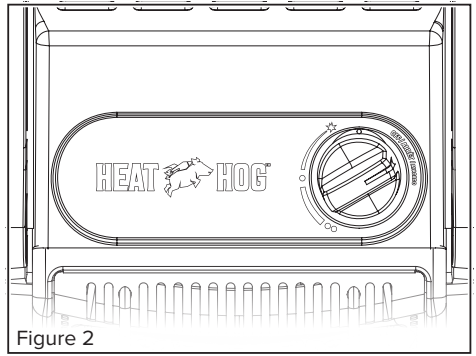

Figure 2
- Before attaching propane make sure Control Knob on heater is in "OFF" position; see Figure 2.
- For **HH-09SNL-A** turn Control Knob counterclockwise to “PILOT” position and depress knob to light; see Figure 2.
- After pilot lights, continue to hold Control Knob down for 30–60 seconds until heating plaques are lit and thermocouple is hot. Release knob. Knob should return to fully extended position; see Figure 2.
- After pilot lights, hold Control Knob down for 30–60 seconds until heating plaques are lit and thermocouple is hot. Release knob. Knob should return to fully extended position; see Figure 2.